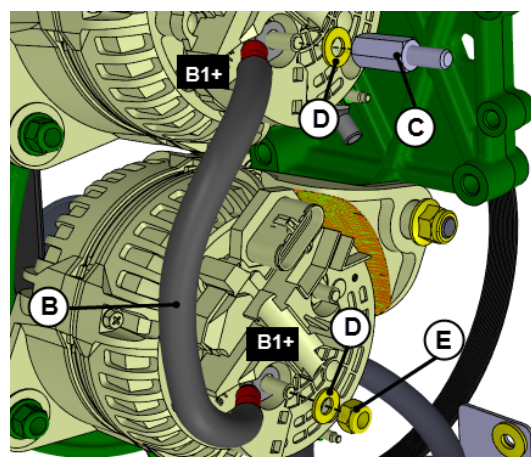

FIGURE 18
25. Connect jumper cable **B** to **B1+** stud terminal of the upper alternator and the lower alternator using hardware shown on **FIGURE 18**.